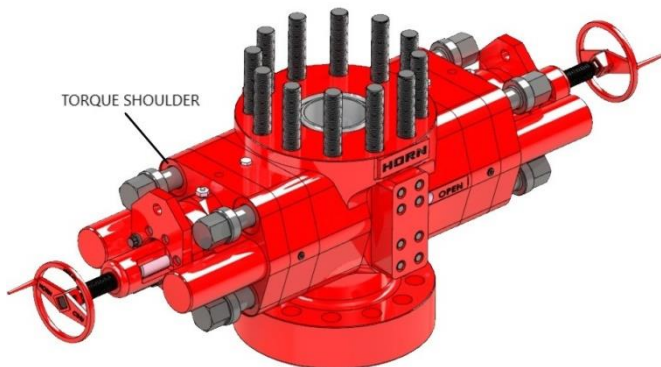
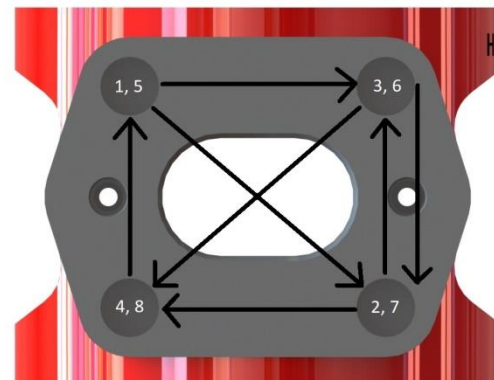

Figure 4: Torque Shoulder
Figure 5: Torque Pattern
To install bonnet bolts on the CTHU, apply thread compound (anti-seize) to the threads and the torque shoulder of the bolt shown in figure 4 below. The recommended thread compound is BESTOLIFE SUPR COPR. The bolts can be applied using an air impact wrench, a hammer wrench, or a torque wrench. The torque values are listed in table 4 below. When installing bonnet bolts, follow the pattern shown in figure 5 below to ensure the bonnet is seated flush to the body.
- ii. The bonnet bolts should be tightened using the order in Figure 5.